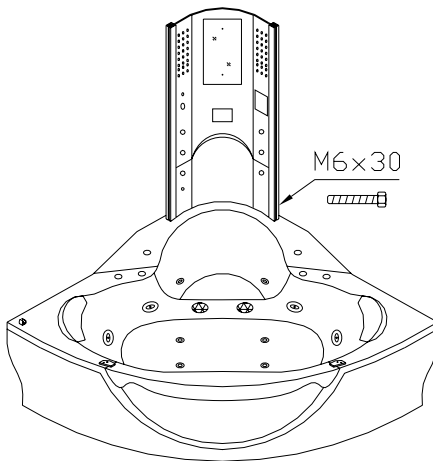

Fig. 4
3. Middle wallboard — — 4-5 sets of bolt of M6×30, using the bolts to connect the middle wallboard and the bathtub from the back hole of middle wallboard. (As the Fig.4)